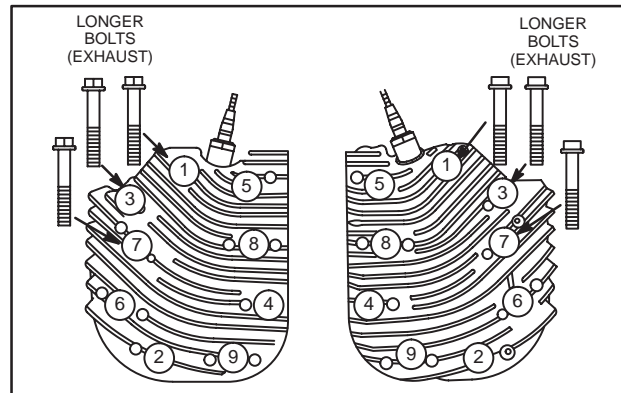

Fig. 4 – Remove Head Bolts
- Remove nine (9) head bolts from each cylinder head, Fig. 4.